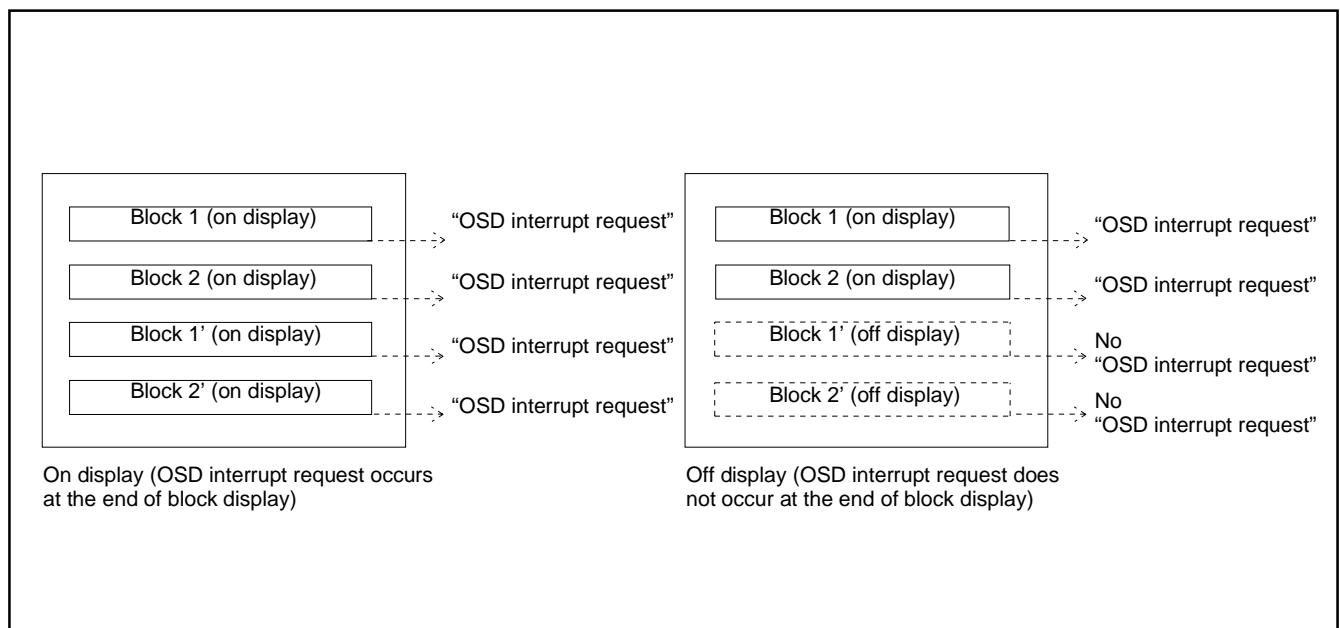

Fig. 8.11.16 Note on Occurrence of OSD Interrupt
**Note:** An OSD interrupt does not occur at the end of display when the block is not displayed. In other words, if a block is set to display off by the display control bit of the OSD control register (address 00EA16), an OSD interrupt request does not occur (refer to Figure 8.11.16).